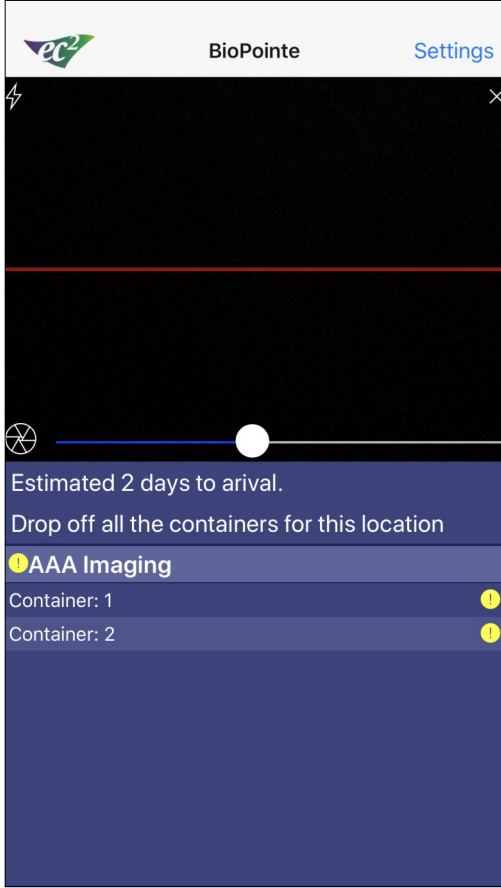

Fig 8
- d. Scan containers barcode to be delivered at the facility. See Fig 8